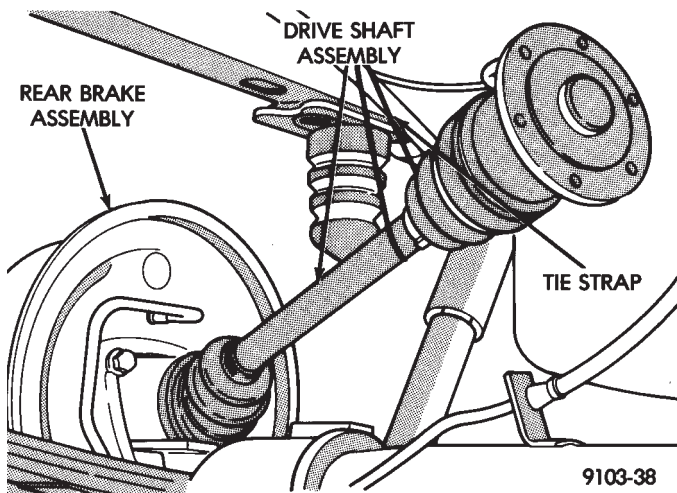

Fig. 3 Support Half Shafts
- (2) Support inner side of half shaft with mechanics wire or equivalent (Fig. 3).